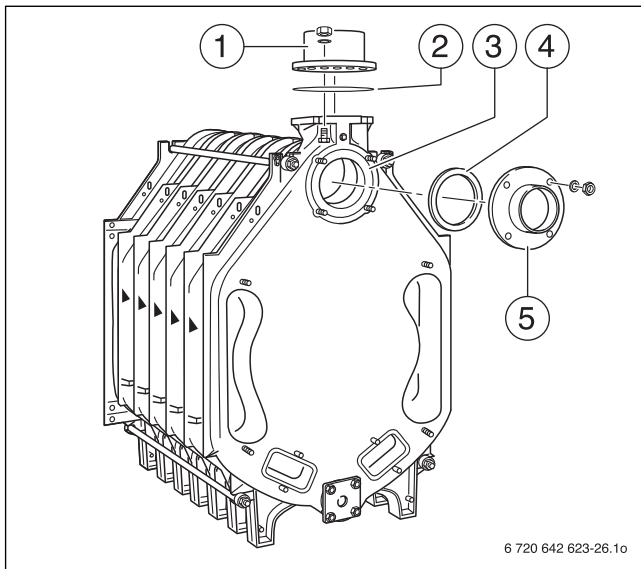

Fig. 28 Fitting a flange
The weld neck flange is fitted to the upper boiler hub (→ Fig. 28, [3] – return connection) if the return is connected at a later stage.
The weld neck flange and flat gasket are shown (→ Fig. 28, [4 and 5]).
- ▶ The supply connection flange (→ Fig. 28, [1]) with flat gasket (→ Fig. 28, [2]) is required for connecting the supply at a later stage.